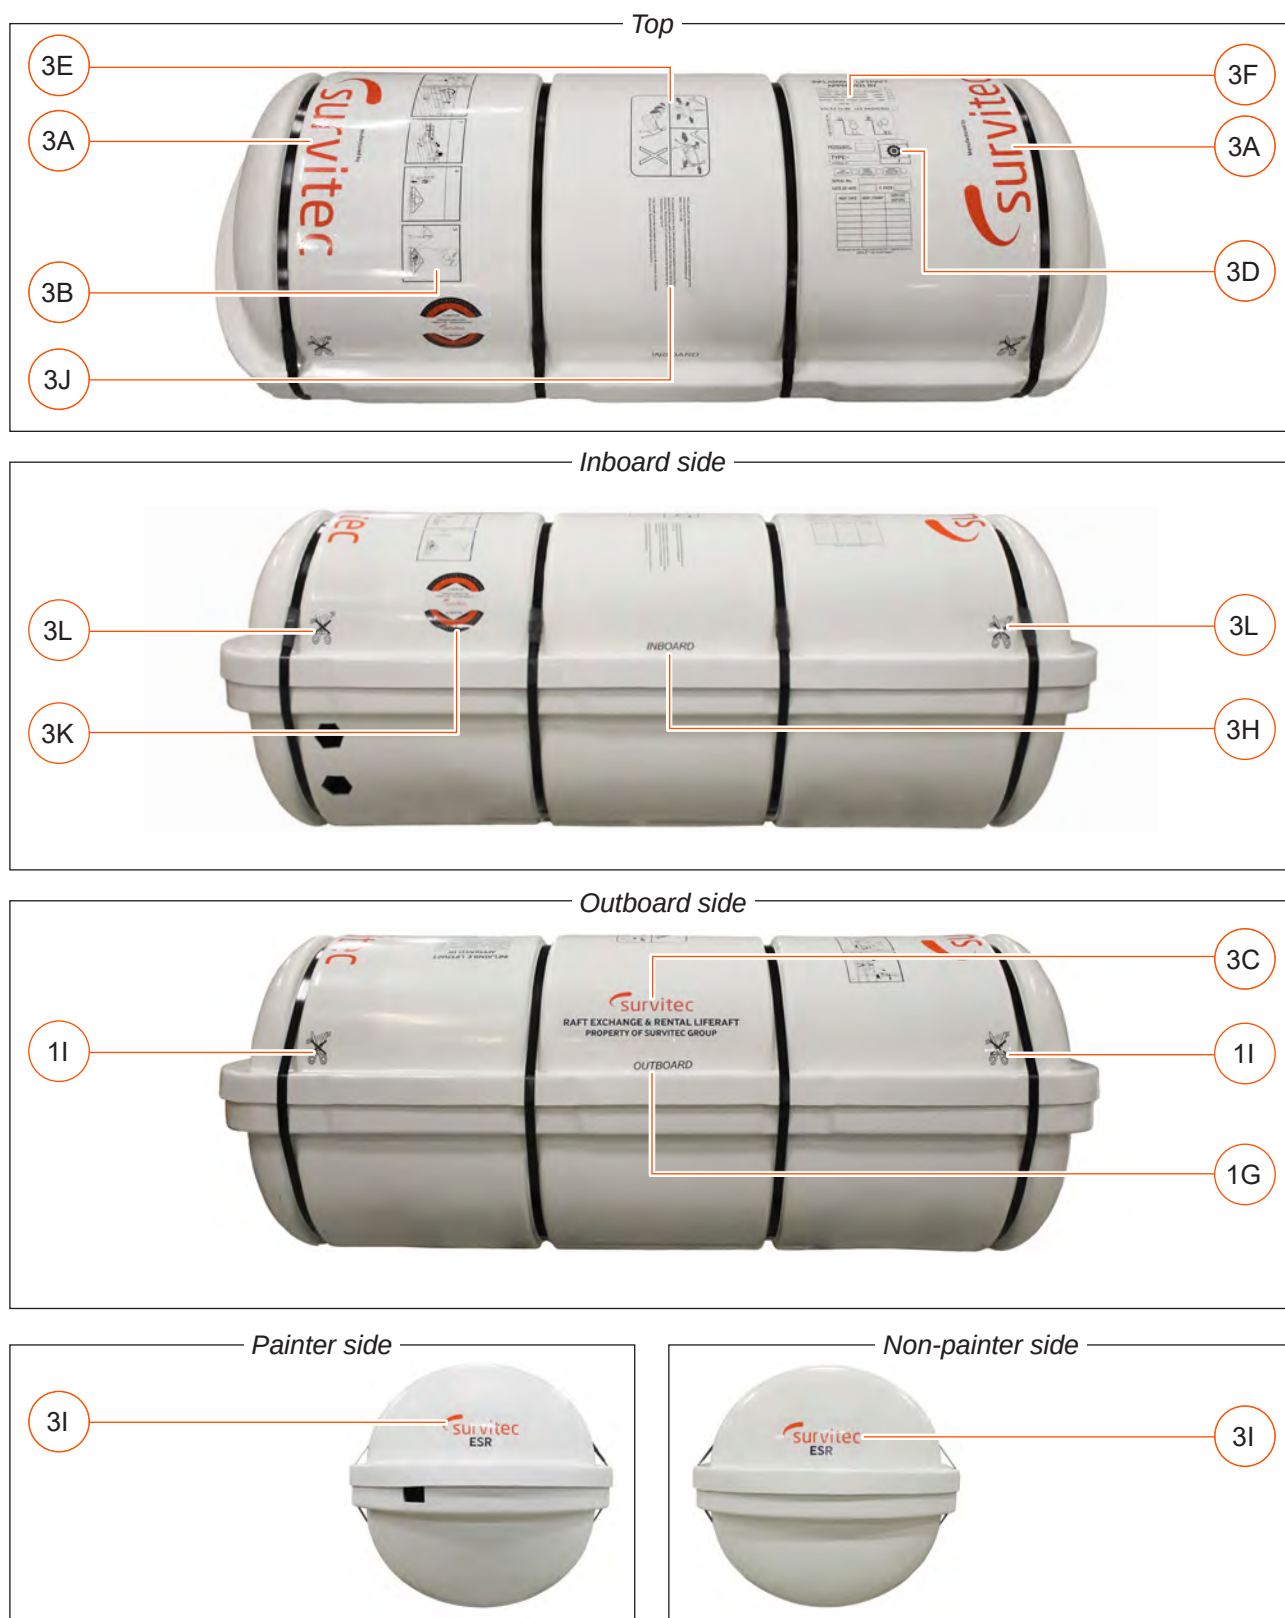

Figure 21
- Mk 10 size 4. Refer to **Figure 21** for label positions.